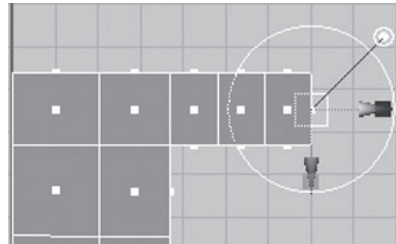

FIGURE 3.63 The sack's face extruded to create the sack's arm.
33. In Top view, press and hold the left mouse button to select the blue handle and then drag to the right approximately three units to create the sack's arm, as shown in Figure 3.63.